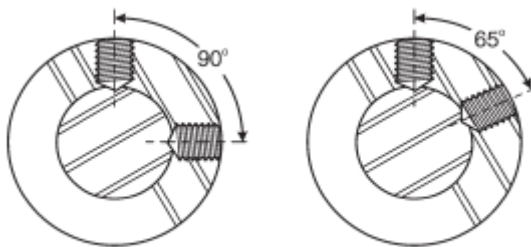

Figure 2 - Set Screw Angles
5. Set screw holes in the sprocket hub must be placed properly for maximum holding strength. For both standard and shallow key seats, two (2) set screws should be used as illustrated in Figure 2. The total holding strength of the set screws is dependent upon their placement and design. Generally, one screw should be placed directly over the keyway, and the other screw at ninety degrees (90°) from the keyway, or at sixty-five degrees (65°) from the keyway—a more recent practice that improves holding power. Sometimes four set screws (or two pair) are used for increased holding strength.